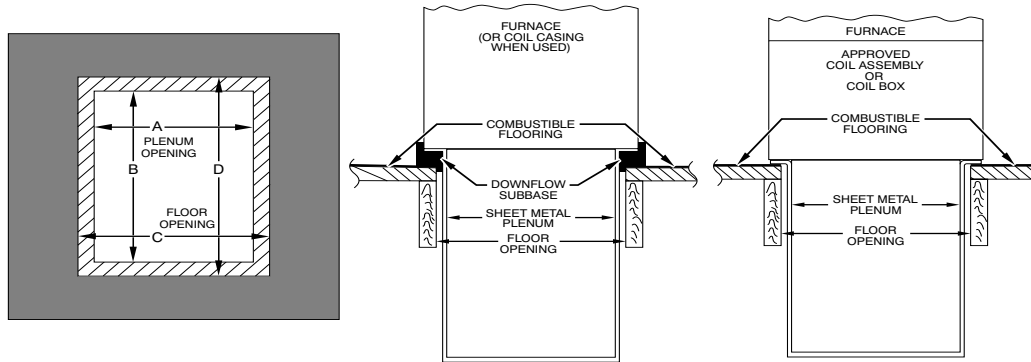

Fig. 24 – Installation on Combustible Flooring
2. Construct hole in floor per Table 4 and Fig. 24.
3. Construct plenum to dimensions specified in Table 4 and Fig. 24.
4. If downflow subbase is used, install as shown. If manufacturer’s cased evaporator coil or coil casing is used, install as shown in Fig. 24.